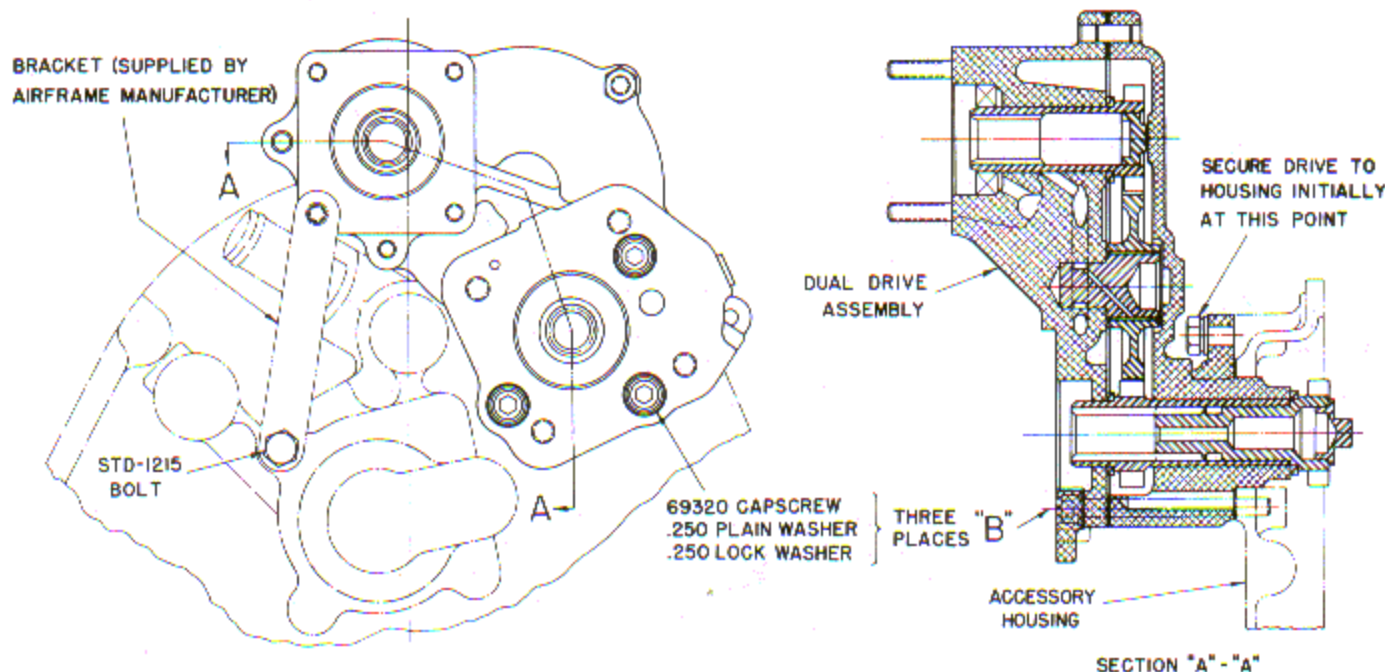

Figure 5-5. Dual Drive Assembly, Vacuum Pump and Propeller Governor
c. Mount the drive assembly on the vacuum pump mounting pad as shown in figure 5-5, securing the assembly in place as follows: Install a 1/4-20 nut, plain washer, and lockwasher on the stud installed in the accessory housing in step b. above. Install three 1/4-20 socket head capscrews, plain washers, and lockwashers in the three holes ("B", figure 5-5) in the governor drive mounting pad.
d. Install the vacuum pump and propeller governor on the dual drive housing. Use the gasket provided in the kit and the nuts and washers removed from the original vacuum pump drive on the accessory housing to attach the vacuum pump to the mounting pad. Secure one end of the dual drive support bracket (Lyc. P/N 71023) to the lower left-hand stud on the vacuum pump pad and attach the other end to the upper left-hand corner of the pressure screen housing mounting flange as shown in figure 5-5, using the STD-1215 bolt provided. Make sure the hole in the support brace aligns with the hole in the pressure screen